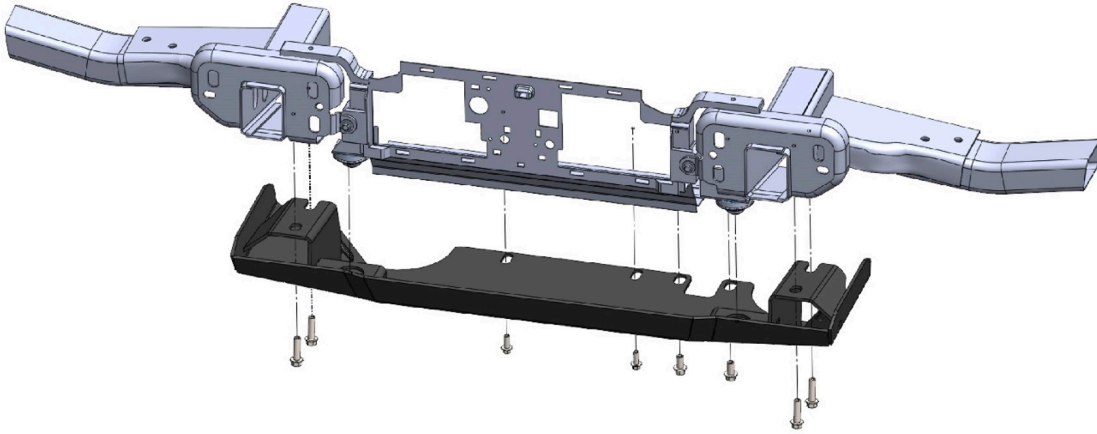

Figure 5
5. Use the OEM bolts removed during steps 2 and 3 to mount the skid plate to the frame. Figure 5.